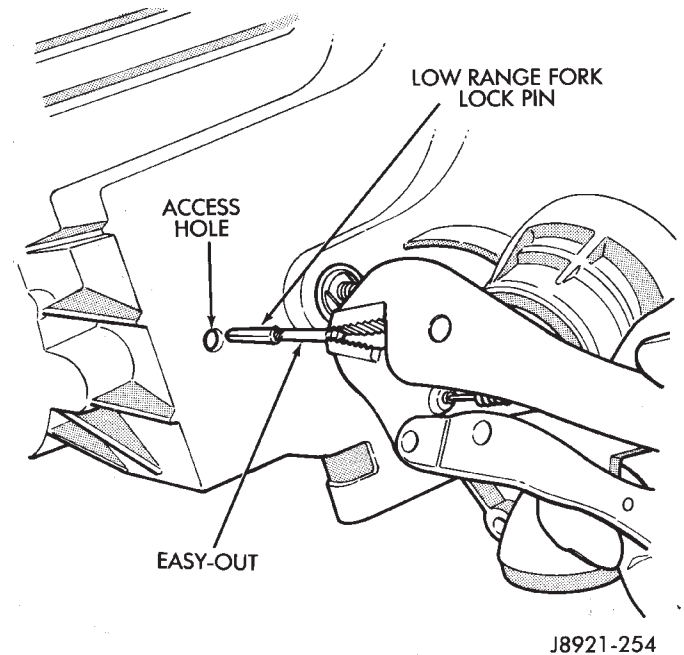

Fig. 14 Low Range Fork Lockpin Removal
(24) Remove seal plug from low range fork lockpin access hole. Then move shift sector to align low range fork lockpin with access hole (Fig. 14).
(25) Remove range fork lockpin with size number one easy-out tool. Grip easy-out tool with locking pliers and remove pin with counterclockwise, twist and pull motion (Fig. 14).